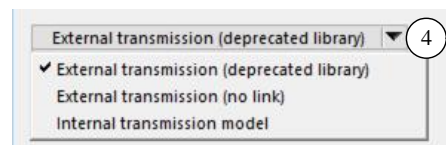

Figure 2. Options for the transmission model.
The 2022.1 version also includes a newer drop-down control for the transmission model that includes three options (Figure 2). The first (deprecated library) and third (internal model) are the same as in past versions. The middle option is new: it simply set the transmission and shifting options to 0 (external); no link is needed.
1. Change the Transmission setting to External transmission (no link) (4) (Figure 2).